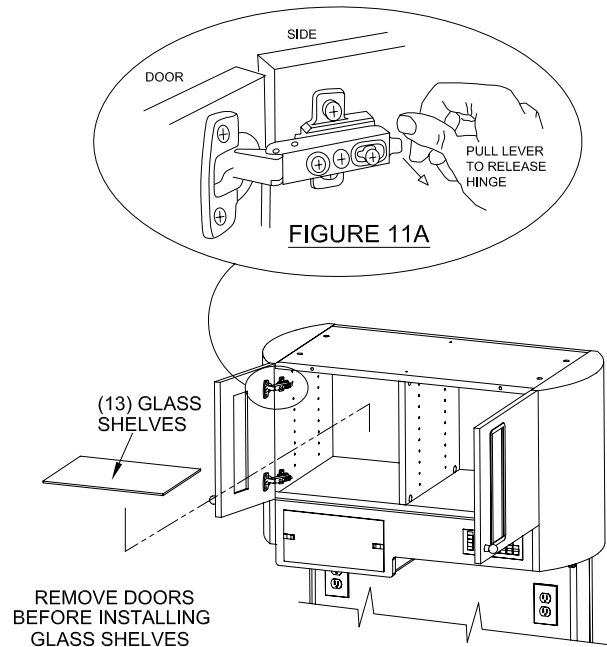
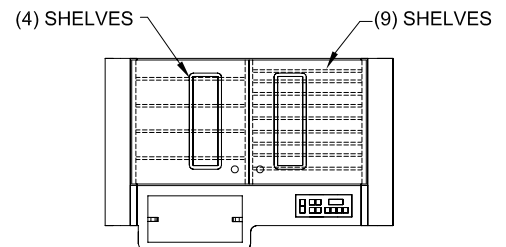

FIGURE 11B
FIGURE 11C
Insert glass shelf support pins (4 for each glass shelf) into holes on the inside end panels and then set glass shelves (B) onto the support pins. See Figure 11B. For glass locations See Figure 11C.